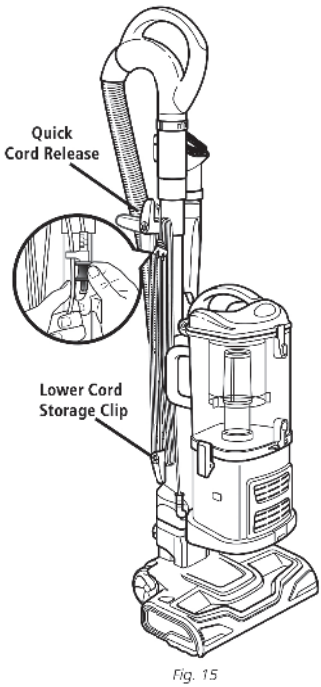

Fig. 15
- 3 Adjust the amount of suction with the suction release on the handle. Open the valve (a) by rotating the collar 90° counterclockwise for low suction when doing light jobs such as drapes or fine surfaces. Close the valve (a) by rotating the collar clockwise 90° for high suction and when using the hand held pet power brush. (Fig. 15)
- 2 Rotate the upper quick cord release to its upright position and coil the power cord loosely around the two clips. Clip the plug onto the cord to secure. (Fig. 15)